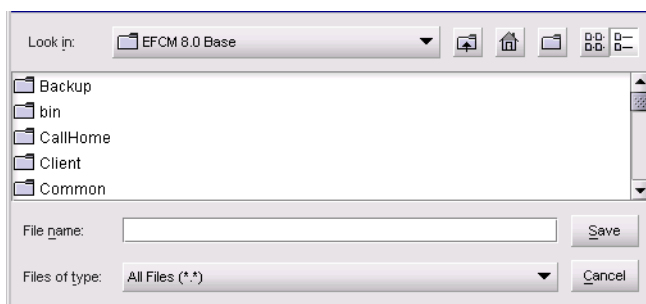

Figure 50: New Firmware Version dialog box
4. Click **New**. The New Firmware Version dialog box displays (Figure 50).